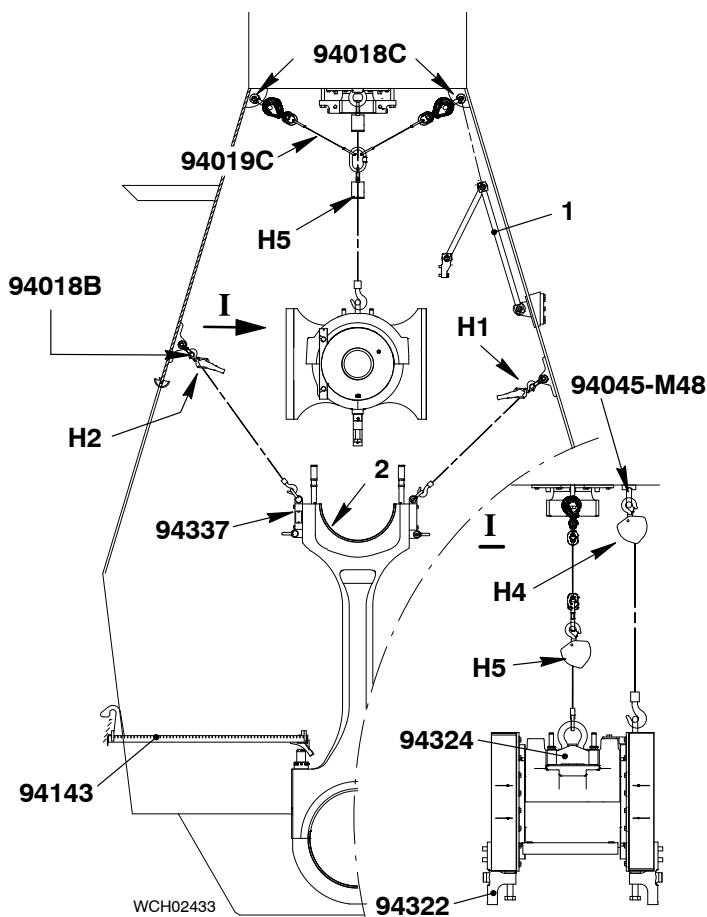
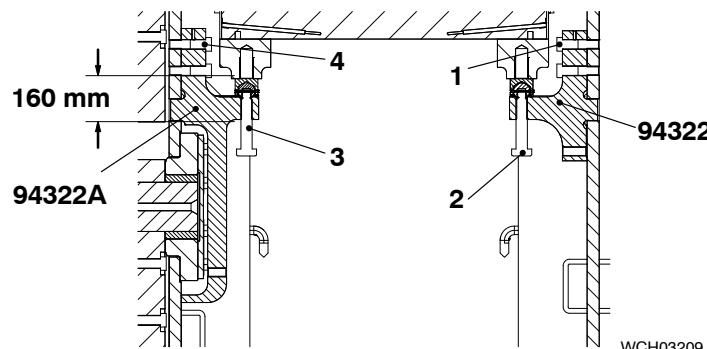

Fig. 4
Fig. 5
- 13) Disconnect the toggle lever (1, Fig. 4) from the connecting rod.
- 7) Operate the chain block (H5) to lift the crosshead to 160 mm above the plug bore (2, Fig. 5) in the column.
- 8) Keep the tension on the chain block (H4, Fig. 4).
Note: Fig. 5 shows an engine with electric Balancer (ELBA). Use two supports 94322 for engines without balancer.
- 9) Attach the two supports (94322, 94322A) to the column with the four bolts (1, 4, Fig. 5).
- 10) Torque the four bolts (3) to 240 Nm.
- 14) Remove the platform (94143, Fig. 4).